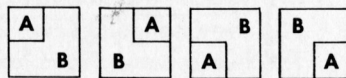

Fig. 7
3. Press the desired Insert Selector **13** according to the figure shown beneath each button. (See Fig. 7)